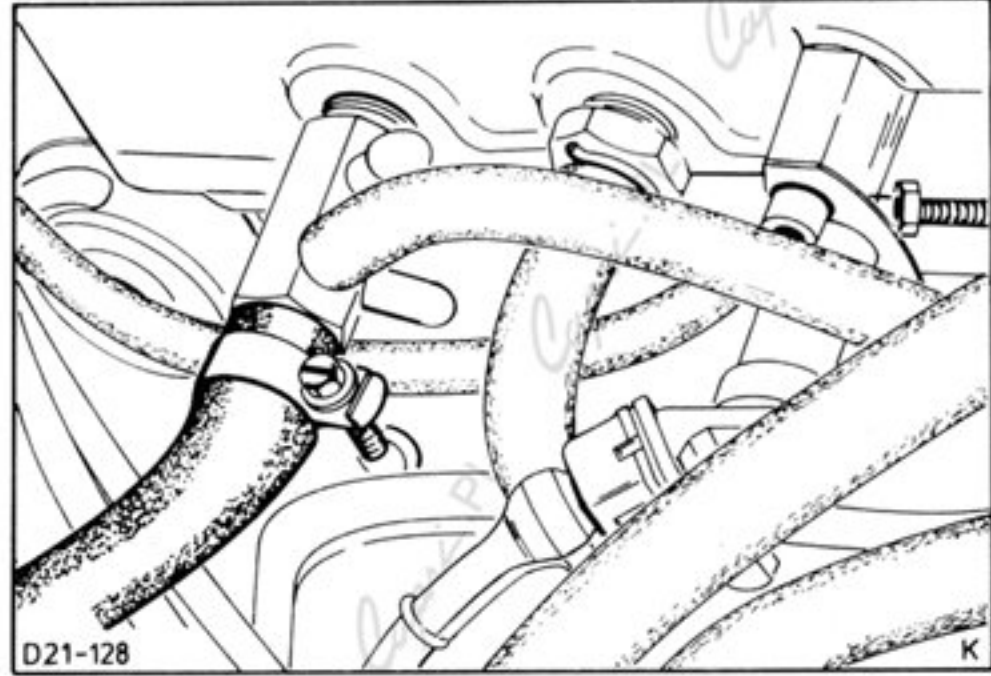

Fig.100. Brake servo vacuum hose.
33. Fit brake servo vacuum hose to the air box connection, Fig.100, and attach coolant hoses to the intermediate section of the auxiliary air valve.